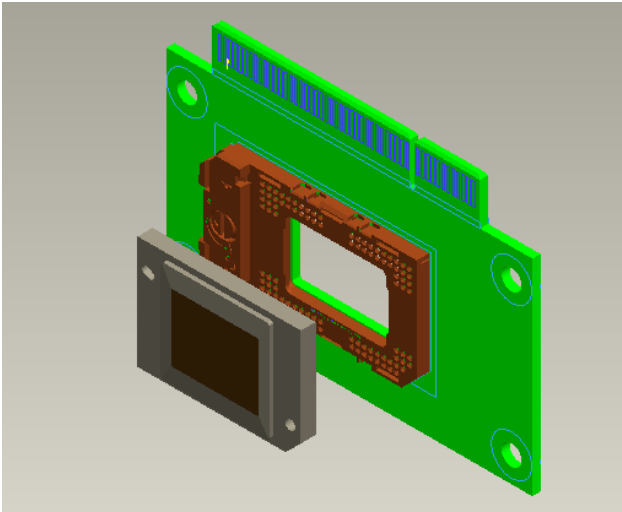

Fig. 5-3
5.2. Align keying and Assemble DMD to Chip B/D (Fig. 5-3).